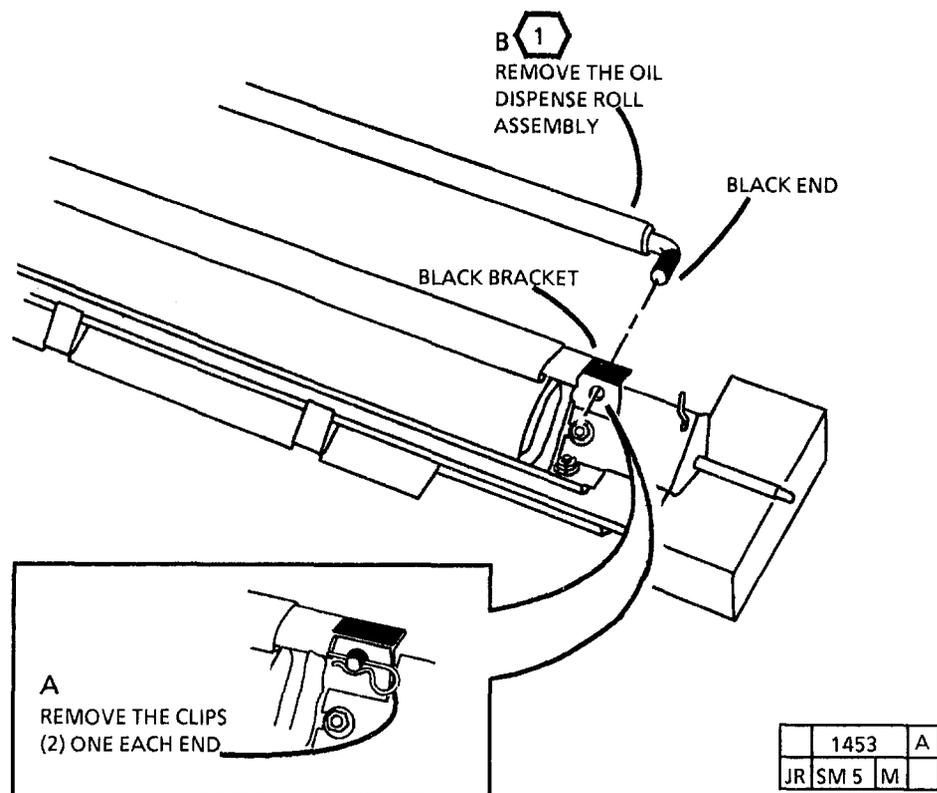

Figure 1. Remove the Oil Dispense Roll Assembly
3. (FIGURE 1): REMOVE THE OIL DISPENSE ROLL ASSEMBLY.